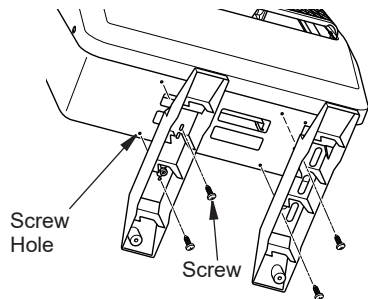

Figure 12 - Attaching Base Feet to Heater
1. Align screw holes in base feet to the bottom of the heater. Attach using Phillips head screws (provided) (see Figure 12).
Use 3/8" black iron pipe or greater. Installation must include an equipment shutoff valve, union, and plugged 1/8" NPT tap. Locate NPT tap within reach for test gauge hook up. NPT tap must be upstream from heater (see Figure 12, page 14).